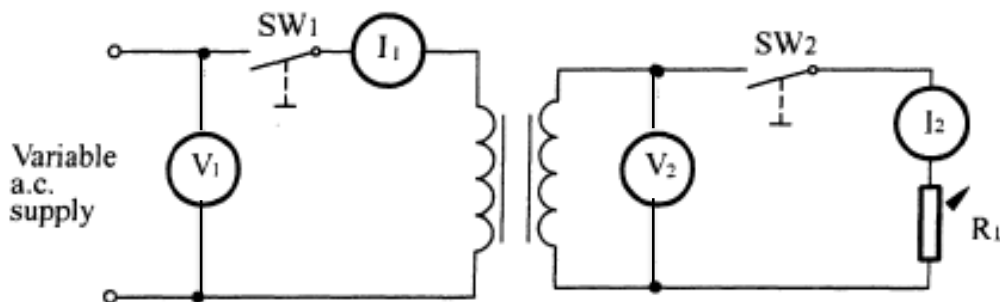

Figure 1
1. Connect the equipment as shown in Figure 1 below